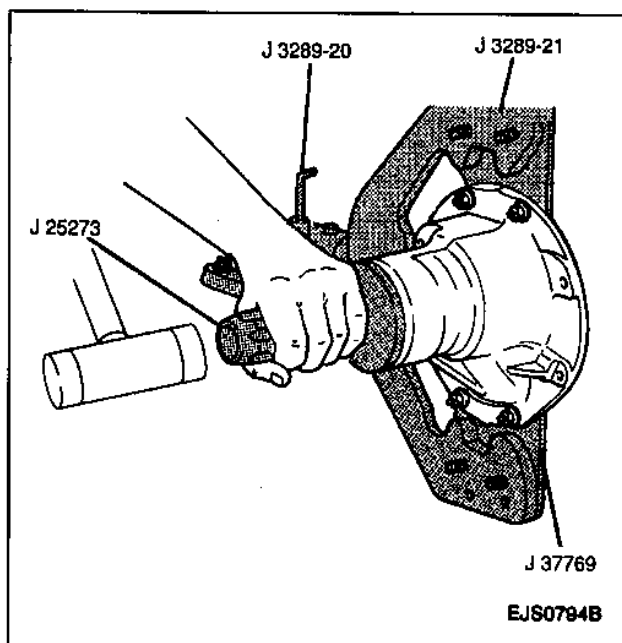

Figure 79—Installing Pinion Oil Seal
5. New pinion oil seal into differential carrier using a J 25273 (Figure 79).